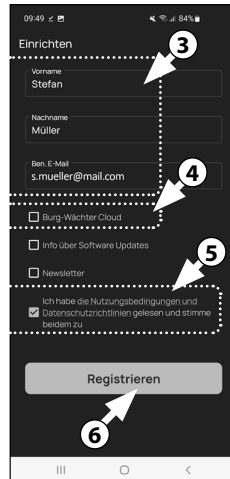

Fig. 3
- 3 Enter your name and a mail address (Fig. 3).
- 4 Select the item: "*BURG-WÄCHTER Cloud*" this is not required for the setup and can therefore be ignored for the time being (Fig. 3). An explanatory note on this subject can be found in the master operating instructions on our website (see link on the title page).
- 5 Read through and agree to the terms of use and privacy policy (Fig. 3).
- 6 Tap on "Register" (Fig. 3).